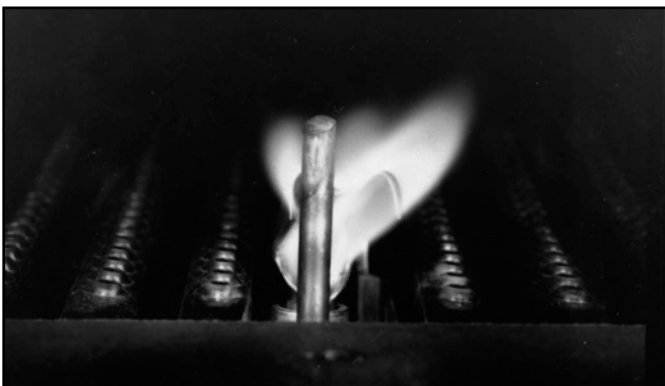

Figure 12. — Pilot Flame Pattern
- A. **BURNERS** — Visually inspect the main burner flame and the pilot flame at least every three months. Refer to Figures 12 and 13 for normal flame pattern. Fallen scale can usually be dislodged from the tops of the burners with a thin rod, then vacuumed or brushed from the bottom of the burner box. If a more thorough cleaning is deemed necessary to restore a normal flame pattern, the burner tray assembly should be removed and the burners cleaned individually.